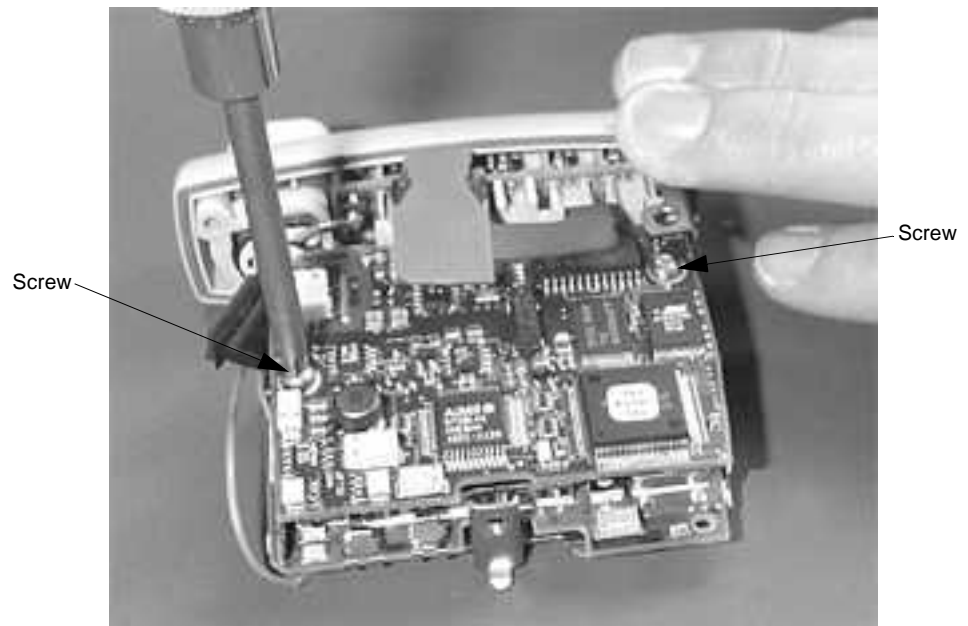

Figure 6-9 Secure the SpO₂ Board
Step 8. Secure the SpO₂ Board to the Main PCB using 2 of the longest screws from the single-use screw kit. Use a torque driver and set the torque for these screws to 3 inch-pounds (.34 joules). See Figure 6-9.